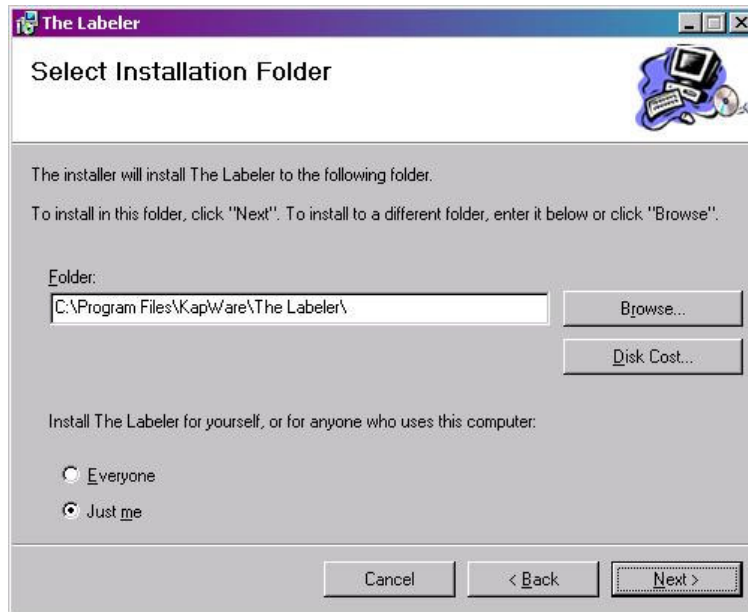

Figure 6.1.1.2.9: Installation Path Screen
7. Select the installation path for where on your computer it will be installed (see Figure 6.1.1.2.10).